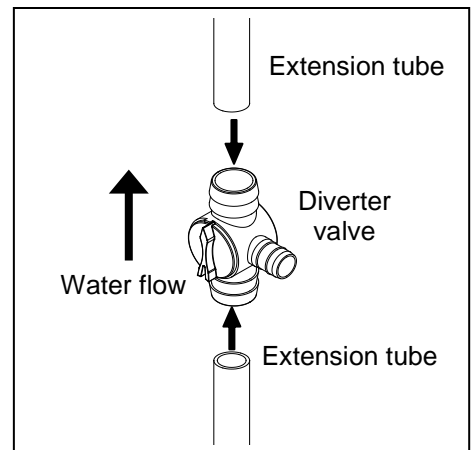

Fig. 9
9. Connect the extension tubes to the diverter valve. Make sure the arrow on the valve is positioned as shown and the diverter valve is connected as shown. Fig. 9